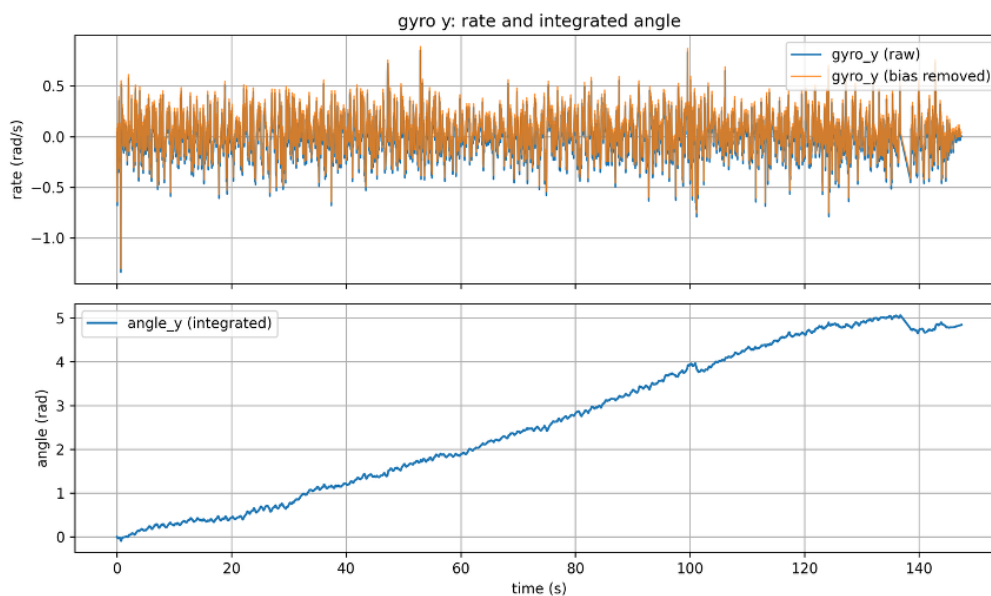

Figure 3: Gyroscope Y-axis: rotational rate and integrated rotation
**Task:** Plot rotational rate around Y and rotation from the gyro around Y (integrate once) on two subplots (Fig. 3).